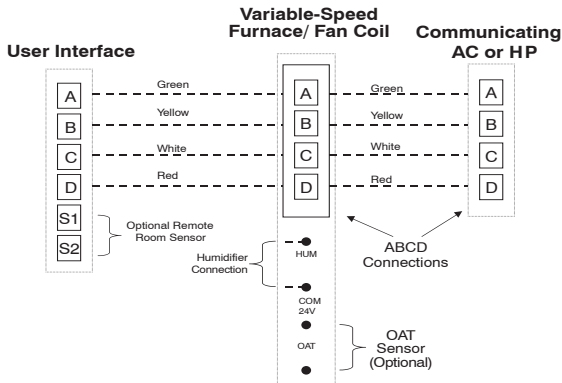

Fig. 11 - Universal Four-Wire Connection Diagram
8. Match and connect thermostat wires to proper terminals on User Interface backplate. See wiring diagram Fig. 11, 12, and 13.
See wiring diagram, Fig. 11, which includes an indoor communicating furnace or FE fan coil, with a communicating outdoor unit. No additional OAT (outdoor air temperature) sensor is required because the Infinity Control will use the temperature sensor inside the outdoor unit.